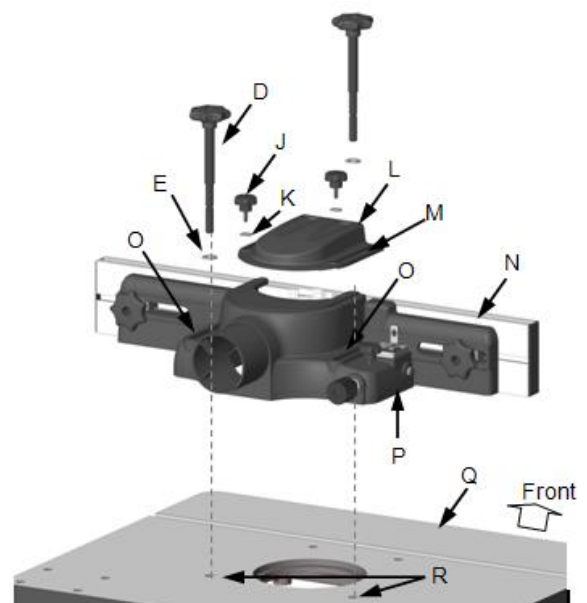

Fig. 2
1. Locate two fence locks from the hardware package and disassemble Fig.2
2. Place the washers (E) on the shaft of each lock handle (D), then insert into the slotted openings (O) on the fence casting (P).
3. Continue the lock handle re-assembly by placing one washer (E) then through the slotted opening (O) on the fence casting(P) and tighten all the way by hand.